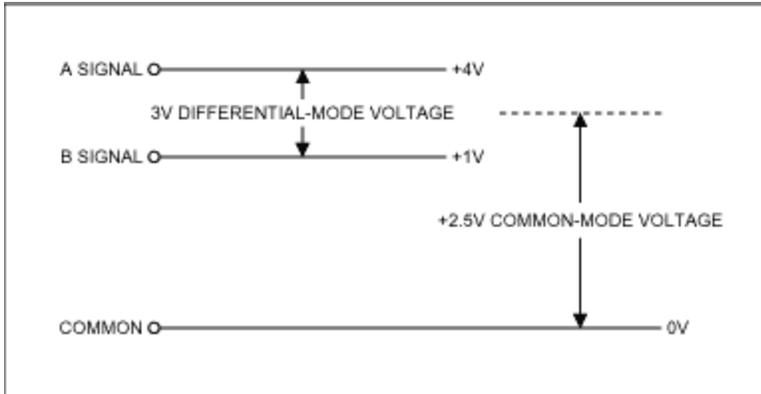

Figure 3. Typical RS-485 transmitters generate a common-mode DC offset voltage as shown.
**Figure 3** shows a 3V differential-mode signal riding on a 2.5V common-mode signal. The DC offset is typical of differential-mode data transmitters operating from a single supply. The common-mode voltage can be AC, DC, or a combination of AC and DC. (Figure 3 represents the simplest case, a DC common-mode voltage with no AC component.)
- $E_{OS}$  is typically a DC offset introduced by a differential-mode driver operating from a single supply, as represented in Figure 3.